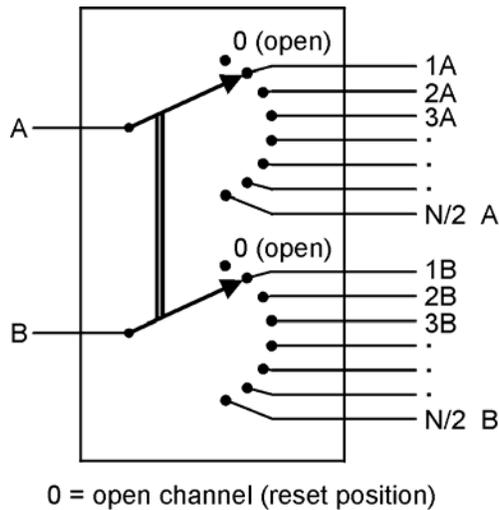

Figure 3: Dual-Common Configuration
This configuration provides simultaneous connection of a bank of inputs to outputs (Figure 3). The input A can be connected to 1A or 1B or ... $(N/2)A$. In this configuration, channel connections are stepped in pairs. The channel displayed is the current channel pair (A and B). The number of channel pairs is equal to one-half of the total number of channels (N).